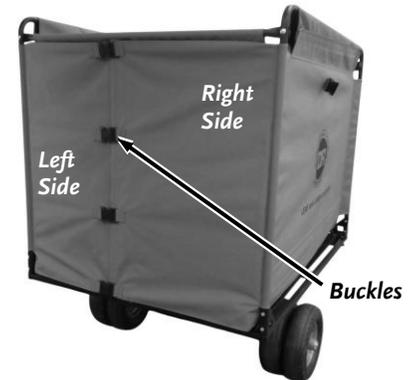

Figure 70
3. Separate the left and right side Door Flaps by disconnecting the four Buckles (**Figure 70**).